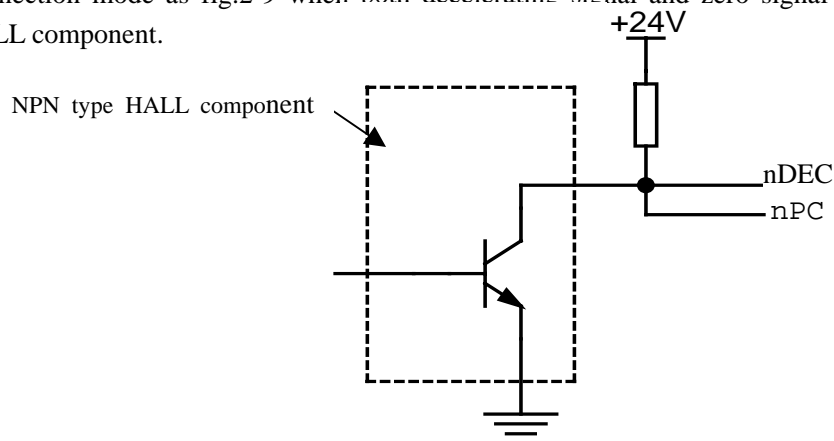

Fig.2-9 Connection of NPN type HALL component
b) Connection mode as fig.2-9 when both decelerating signal and zero signal are rooted in one NPN type HALL component.
- c) Connection mode as fig.2-9 when both decelerating signal and zero signal are rooted in one PNP type HALL component .